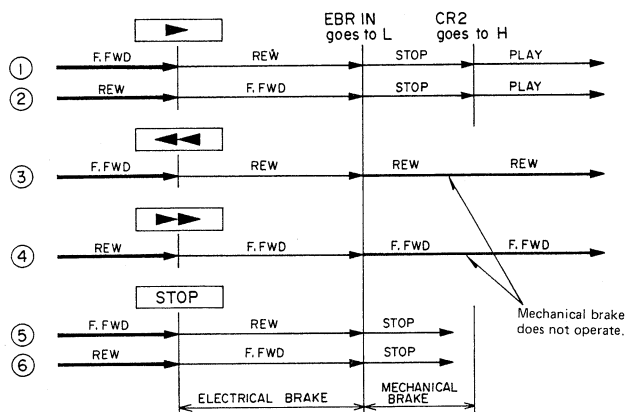

Fig. 7-24 Electric brake operation
The operation of the electric braking process was described in section 7-10. Fig. 7-24 illustrates the operation of the electric braking. In case of (3) and (4) in Fig. 7-24, operation is continued. Now, for example, assume that the F. FWD button is pressed when the deck is in the STOP mode, then the STOP button is pushed before the tape begins to move in the F. FWD direction. In this case, if the electric brake circuit operates, without going into the STOP mode,